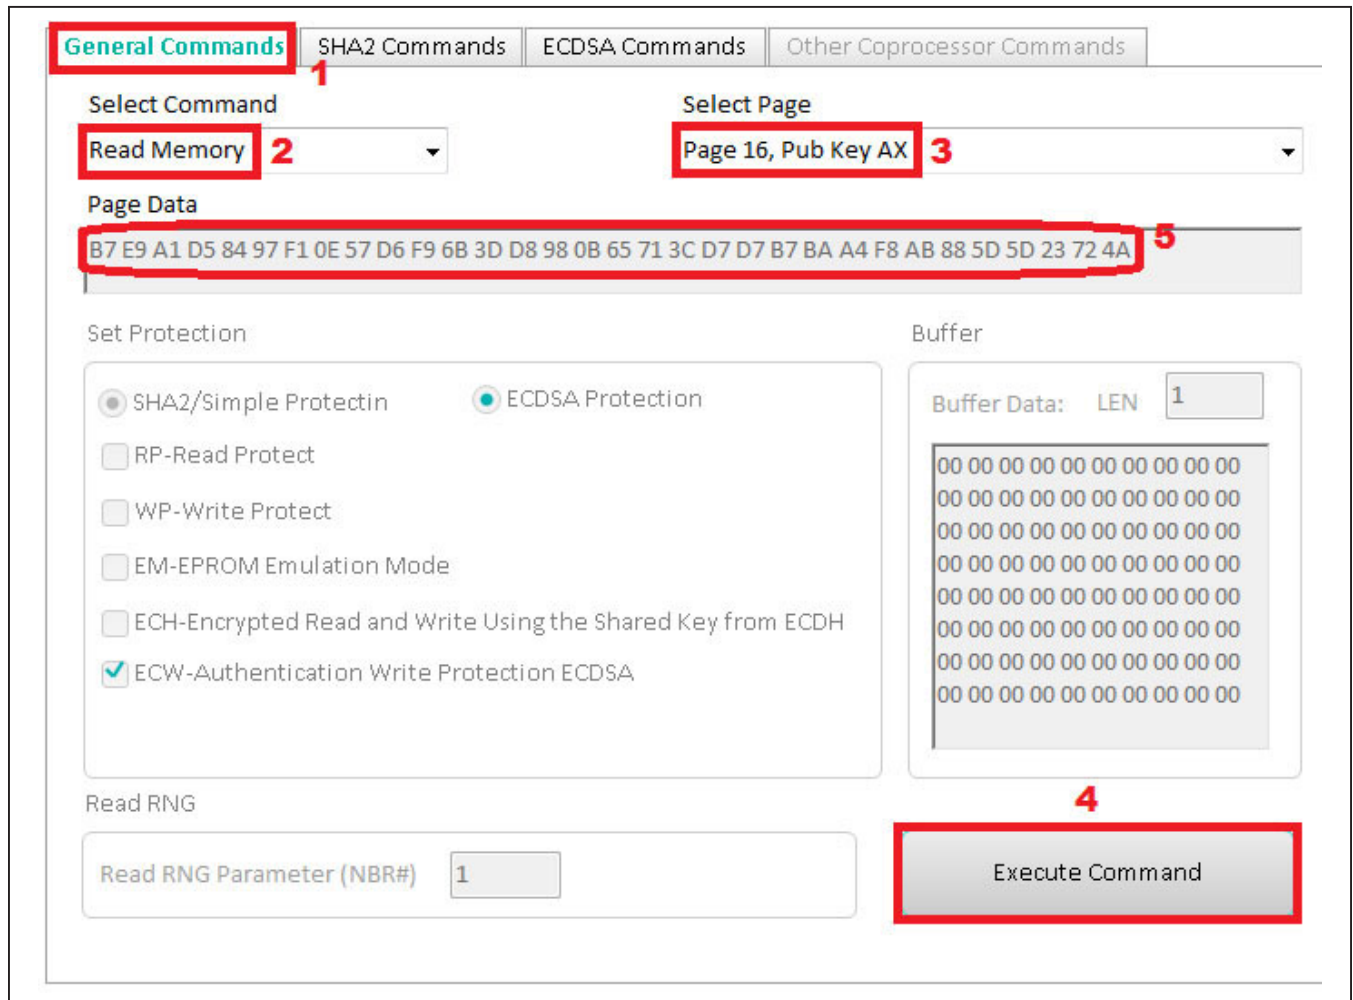

Figure 23. Read Memory Public Key AX of Page 16
- 2) If not already done, perform **Read Memory** on device public key AX per Figure 23. Select the **General Commands** tab. From the **Select Command** drop-down list, choose **Read Memory**, from the **Select Page** drop-down list, choose **Page 16, Pub Key AX** and click on the **Execute Command** button. Confirm the **Page Data** field populates with the correct values.
Repeat the steps in Figure 23, but change the **Select Page** drop-down list to **Page 17, Pub Key AY** to read the device public key AY.
- 2) If not already done, perform a **Read Memory** on device public key AX (Figure 23). Select the **General Commands** tab from the **Select Command** drop-down list and choose **Read Memory**. From the **Select Page** drop-down list, choose **Page 16, Pub Key AX** and click on the **Execute Command** button. Confirm that the **Page Data** field populates with the correct values.